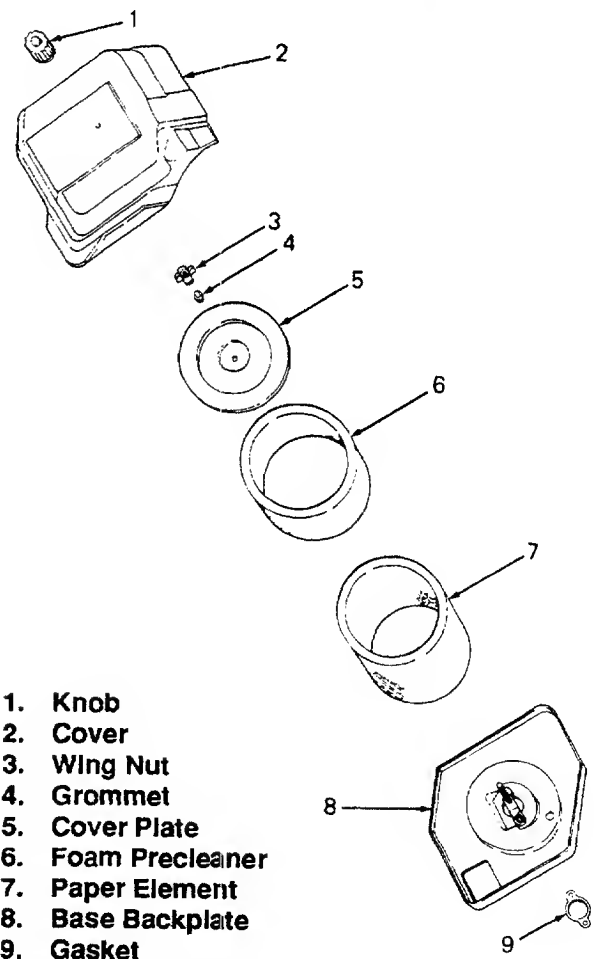

Figure 25. Air Cleaner Elements
2. Remove the foam precleaner by sliding it up off the paper element. (See Figure 25.)